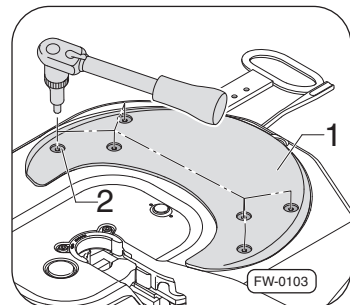

Fig. 38 · Fit lube plates
1. Insert the lube plates Fig. 38, –pos. 1– into the recess in the fifth wheel plate.
2. Insert the new screws (12x) –pos. 2– and tighten to the prescribed torque Page 36.